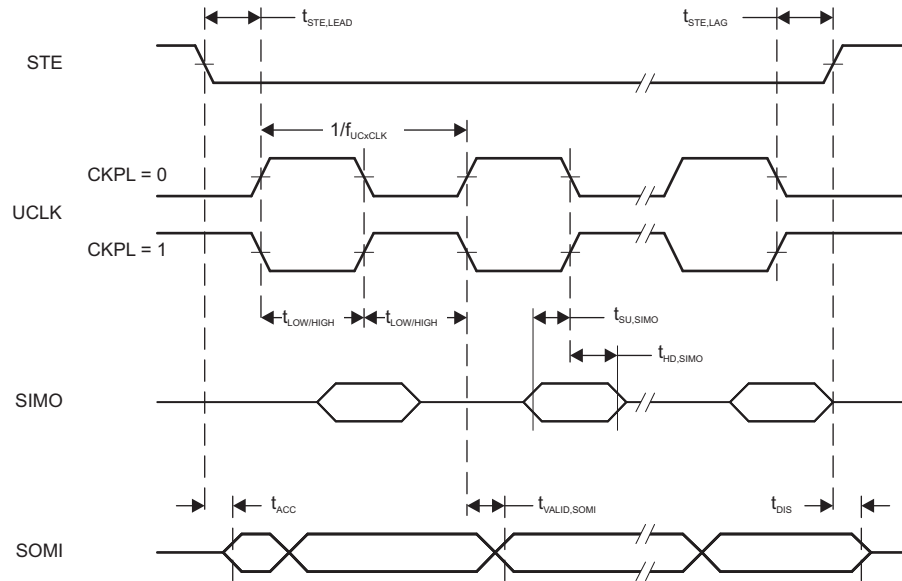
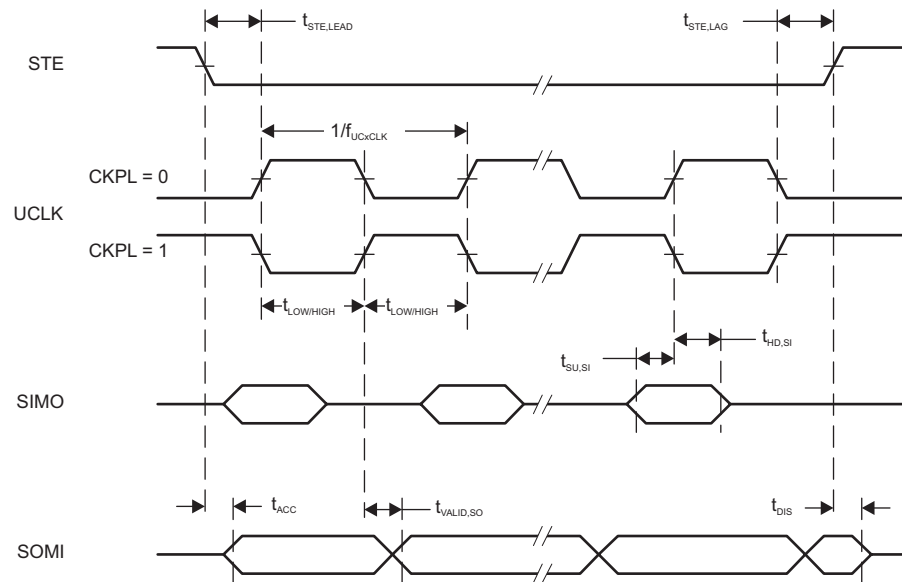

Figure 5-12. SPI Slave Mode, CKPH = 0
Figure 5-13. SPI Slave Mode, CKPH = 1
(2) Specifies the time to drive the next valid data to the SOMI output after the output changing UCLK clock edge. Refer to the timing diagrams in Figure 5-12 and Figure 5-13.
(3) Specifies how long data on the SOMI output is valid after the output changing UCLK clock edge. Refer to the timing diagrams in Figure 5-12 and Figure 5-13.